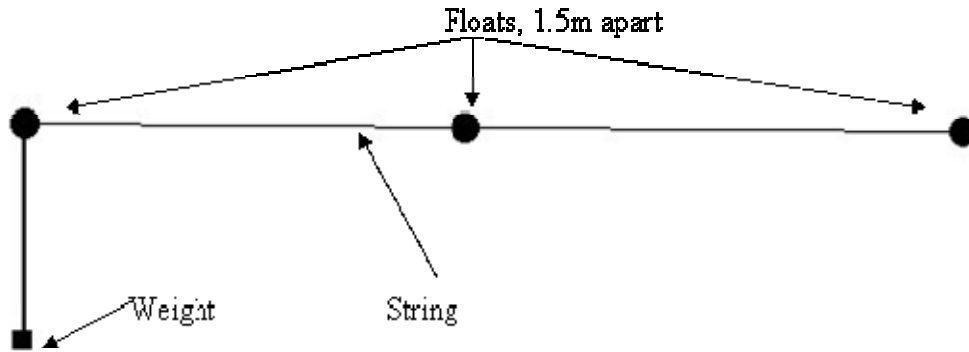

Figure 10
- 2.7.7. Every mine field / net must have the first float directly above the weighted end plus one float for every 1.5 metres or fraction thereof, spaced evenly between first float and the last float at the non weighted end, as per Figure 10.